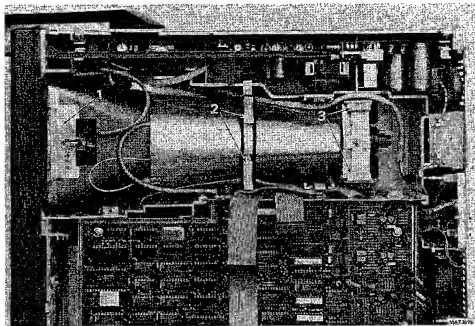

Figure 16.5 Removing the CRT
**IMPORTANT:** It is strongly recommended to study this chapter and the associated illustration before starting the replacement. Refer also to figure 16.5 for this.